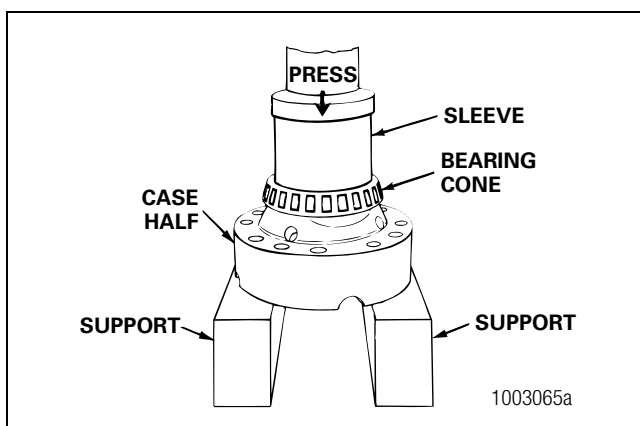

Figure 5.37
8. Use a press and the correct size sleeve to install the bearing cones on both of the case halves. Figure 5.37.